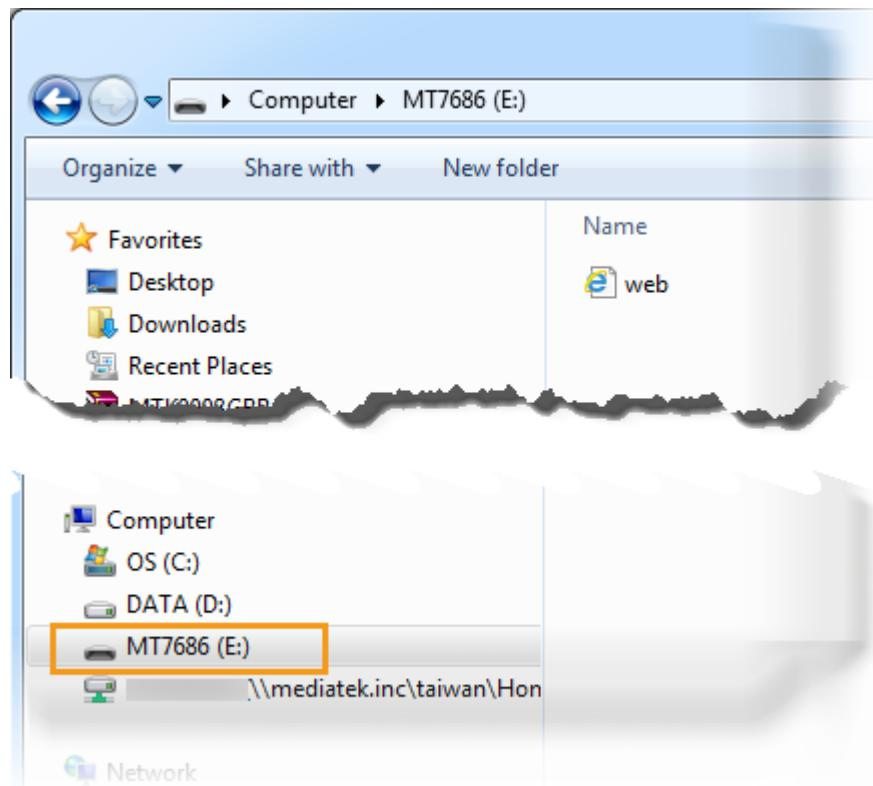

Figure 32. MT7686 removable storage detected
- 2) Navigate to **Computer** on your PC to check if a new mass storage named **MT7686** is available under **Removable Disk**, as shown in Figure 32.